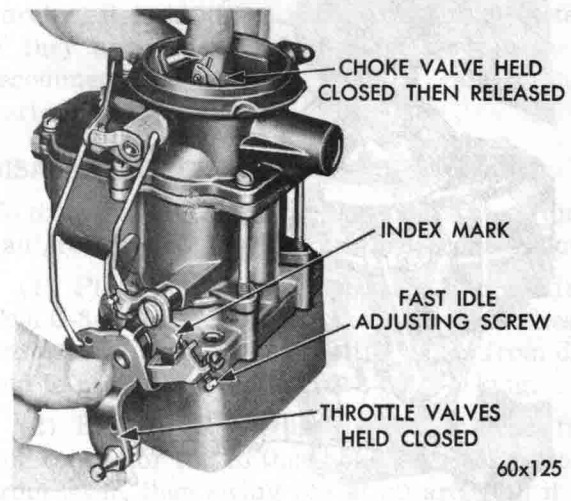

Fig. 18—Fast Idle Index Mark Aligned
(3) Again, invert the carburetor and open the throttle valves to wide open position. Now, close the throttle valves and the choke valve tightly.
(4) Release the choke valve only. This positions the fast idle cam to fast idle. The index mark on the cam should split the center of the fast idle screw shank, as shown in Figure 18.